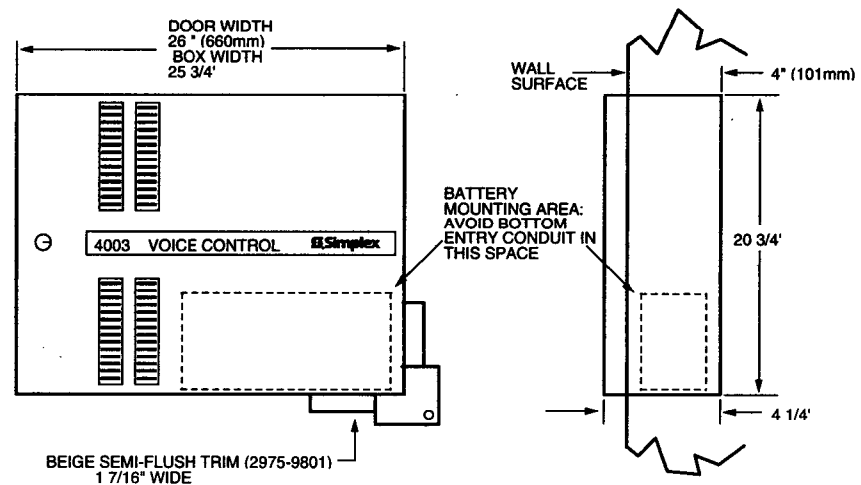

Figure 12. Installing the 4003 Back Box
8. At the 4003 mounting location, install the 4003 back box as shown in Figure 12.
Note: For semi-flush mounting, the back box must be extended 1 1/2 inches from the finished wall. Refer to the "Rough Opening" section of the Back Box Installation Chart (Figure 12).